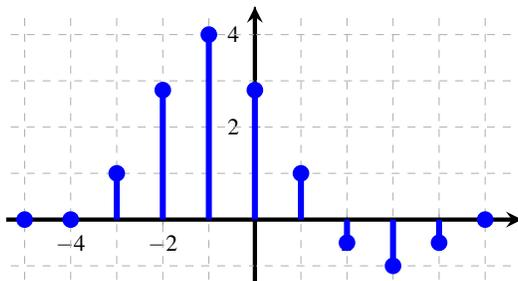
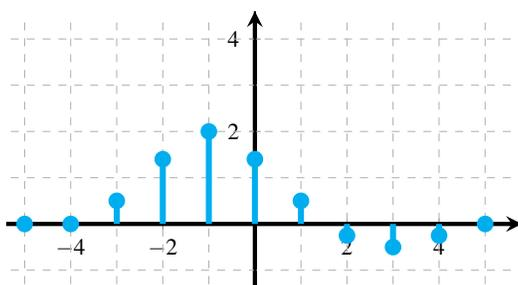

Figure 12: Linear cross-correlation plots for $\text{Corr}_{\vec{s}_1}(\vec{s}_2)$.
Figure 13: Linear cross-correlation plots for $\text{Corr}_{\vec{s}_1}(\vec{r})$.
- (c) (4 points) We again have two new signals \vec{s}_1 and \vec{s}_2 , and are now given the plot of $\text{Corr}_{\vec{s}_1}(\vec{s}_2)$ as shown in Figure 12. Our receiver identified a signal \vec{r} which we know to be related to the code \vec{s}_2 by some scaling, shifting, and/or reflection. However, we only know the linear cross-correlation $\text{Corr}_{\vec{s}_1}(\vec{r})$ as shown in Figure 13. **Can you express \vec{r} in terms of \vec{s}_2 ? Show your work and justify your answer.**